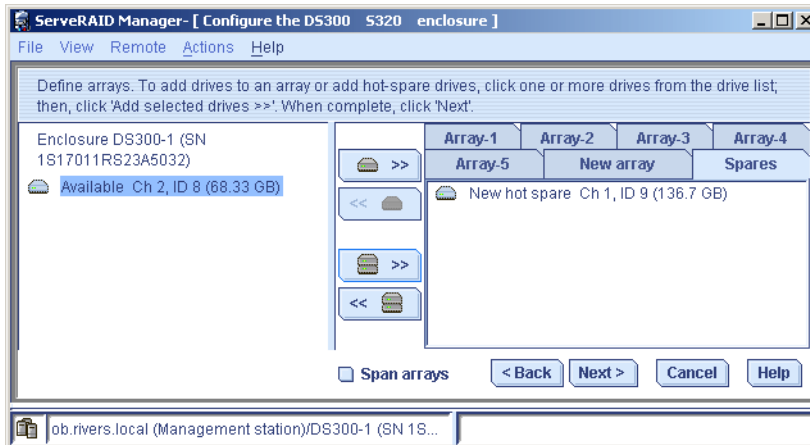

Figure 4-67 Spares tab with spare drive
12. The selected drive will be moved to the **Spares** tab. This will be a global hotspare drive. See Figure 4-67.